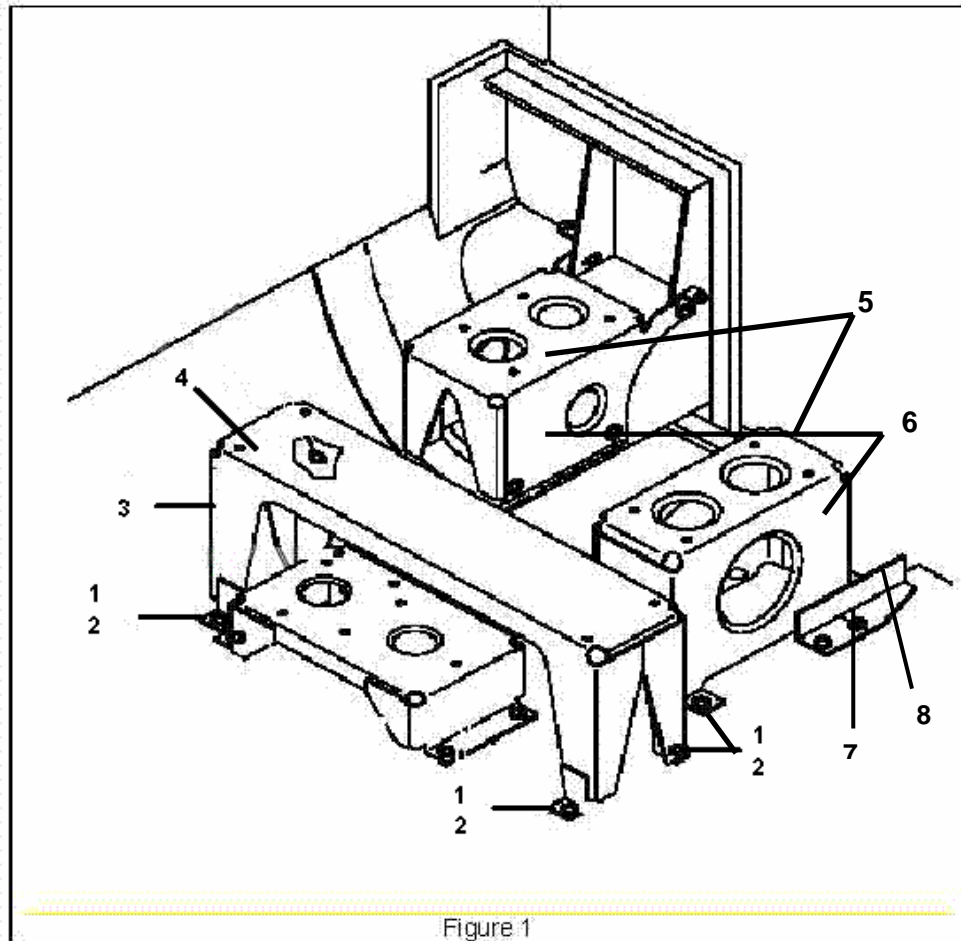

Figure 1
- a. Removal of the HF- R/T Shock Mount. (See Figure 1.)
b. Removal KY-75 Shock Mount. (See Figure 1.)
- (1) Remove four machine screws (1) and four flat washers (2).
- (2) Remove rivets (7) and "L" shaped bracket (8).
- (3) Remove KY-75 Shock Mount (5) and Brackets (6).
- (4) Reinstall four screws (1) and four washers (2) in mounting holes.